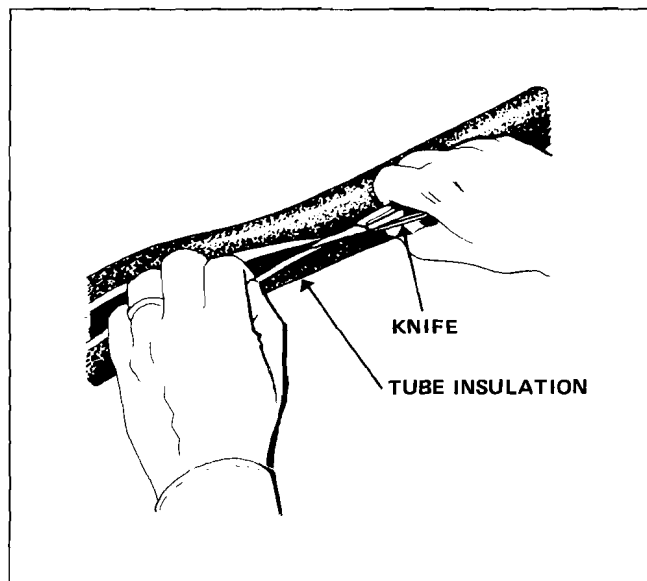

FIGURE 11 – SLITTING TUBING INSULATION LENGTHWISE
- (1) Cut insulation to length (slightly longer than tube being covered).
- (2) With unslit tubular tube insulation, use a sharp knife and slit the insulation lengthwise on one side (see figure 11).
- (3) Snap insulation over tube (both types of insulation).